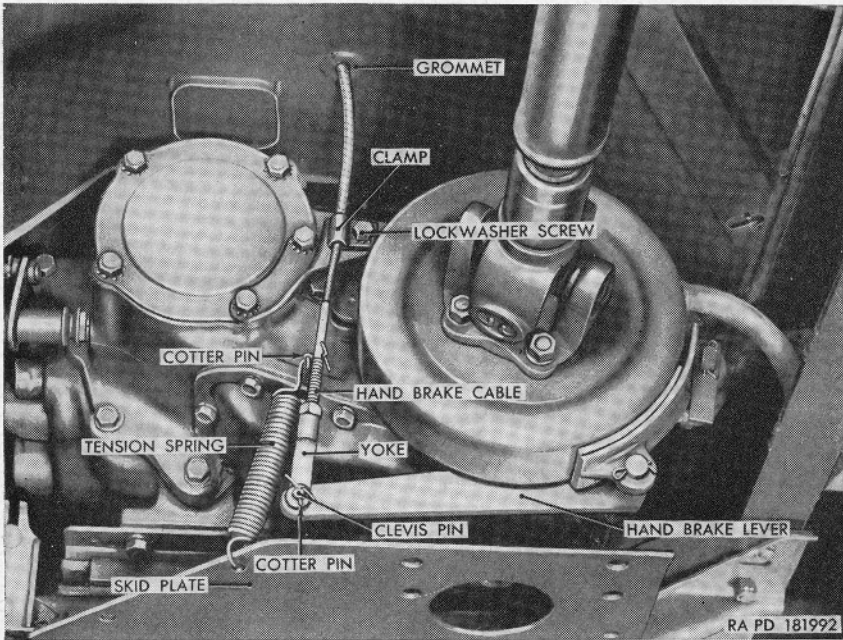

Figure 26.8. (Added) Disconnect points under body M170.
- (5) *Make disconnects under body.*
- (a) Remove the tension spring (fig. 26.8) from the skid plate and the cotter pin through the hand brake cable.